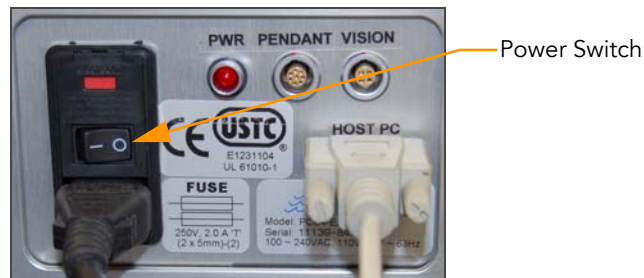

Figure 52 AutoLoader 2.x Power Switch
3. Press the **Power** switch on the back panel (Figure 52).